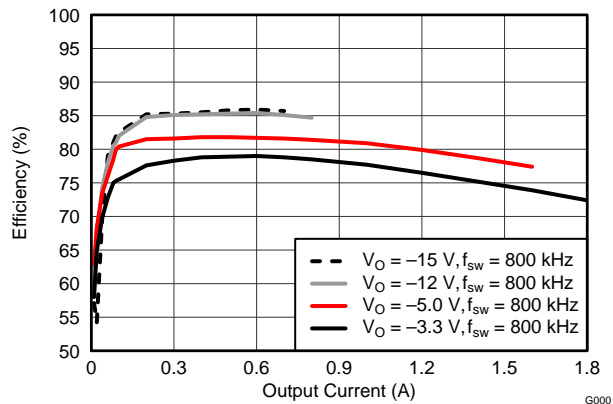
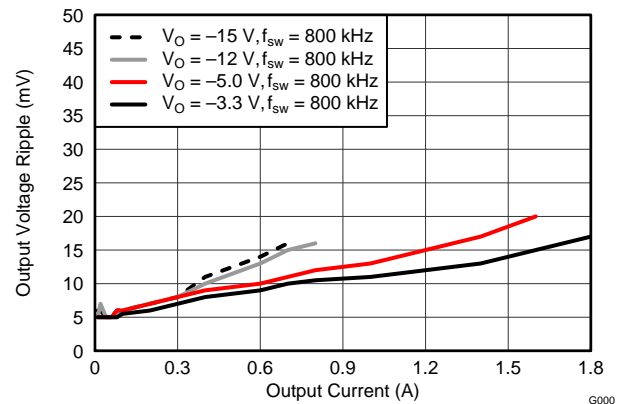
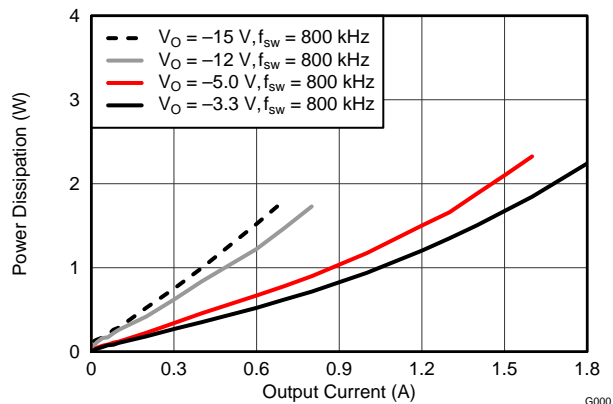

Figure 9. Efficiency vs. Output Current
Figure 10. Voltage Ripple vs. Output Current
Figure 11. Power Dissipation vs. Output Current
- (1) The electrical characteristic data has been developed from actual products tested at 25°C. This data is considered typical for the converter. Applies to Figure 9, Figure 10, and Figure 11.